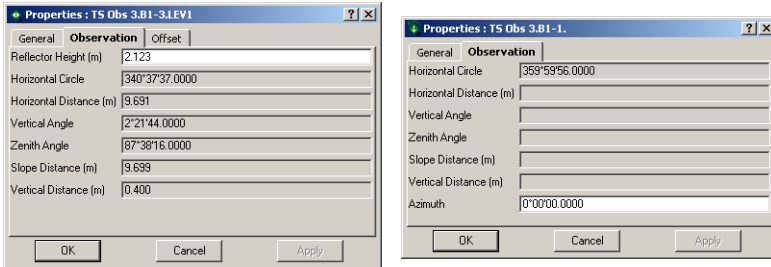

Figure 4-69. TS Properties – Observation Tab
- On the **Properties** dialog box, click the **Observation** tab (Figure 4-69).